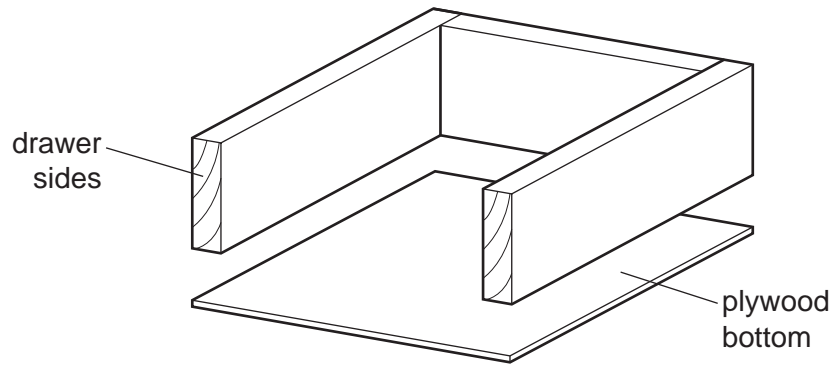

Fig. 3
- 5 With the aid of sketches, show **three** different ways of fixing the plywood bottom of a desk drawer as shown in Fig. 3.